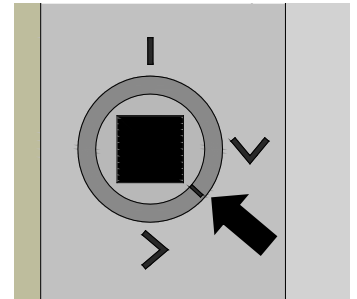

figure 24
3. While supporting the weight of the chuck, use the chuck key to turn one of the cams until the cam line is between the two "V" marks on the spindle as shown in (fig. 24).